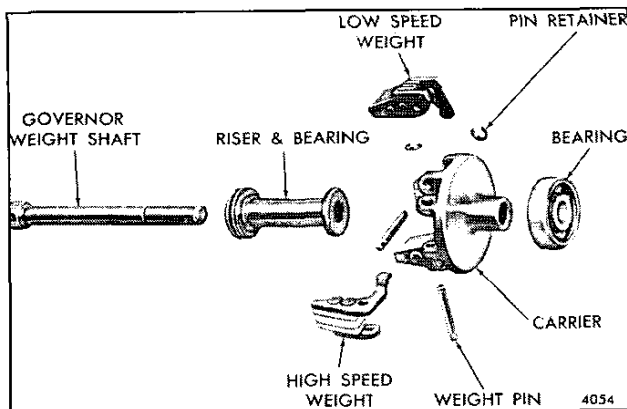

Fig. 10 – Governor Weight Details and Relative Location of Parts
1. Remove the retaining rings from the governor weight pins (Fig. 10). Then, drive the pins out by tapping on a punch held against the grooved end of the pins. Remove the governor weights.
Refer to Fig. 10 and assemble the governor weights and shaft as follows: